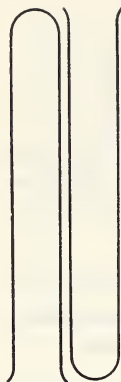

Fig. 35. Determining whether hydrogen is more or less dense than air.
3. Lift the two remaining test-tubes from the table, quickly invert one of them, and hold the two tubes in the position shown in Figure 35 for at least half a minute. At the end of this time, bring a blazing splint to the mouth of each test-tube.